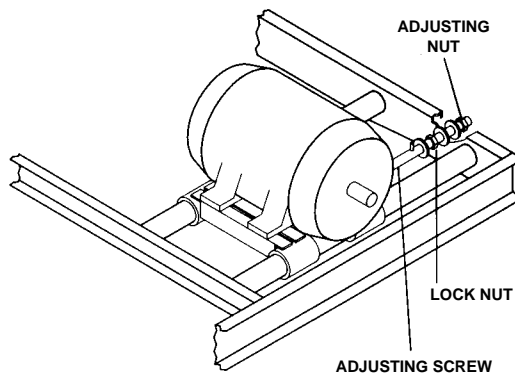

Figure 5 – Adjustable Motor Base
The motor base slides and adjusting screw (See Figure 5) should be coated twice a year using a good quality corrosion inhibiting grease such as one of those recommended for lubricating the fan shaft bearings (see Page 9).
1. Loosen the locking nut (See Figure 5, 5a, 5b)